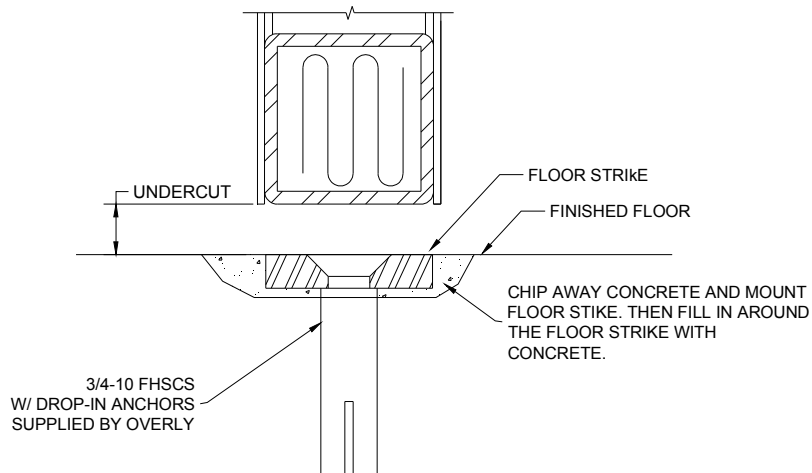

FIGURE 11 – FLOOR STRIKE – FLUSH MOUNT
5. If the floor strike is to be mounted flush with the top of the floor. Chip out the concrete floor at this time and mount the floor strike as described above. Refer to Figure 11.